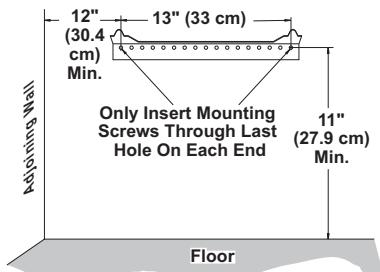

Figure 8 - Mounting Bracket Clearances
⚠ WARNING: Maintain minimum clearances shown in Figure 8. If you can, provide greater clearances from floor and joining wall.
2. Mark screw locations on wall (see Figure 8). **Note:** Only mark last hole on each end of mounting bracket. Insert mounting screws through these holes only.